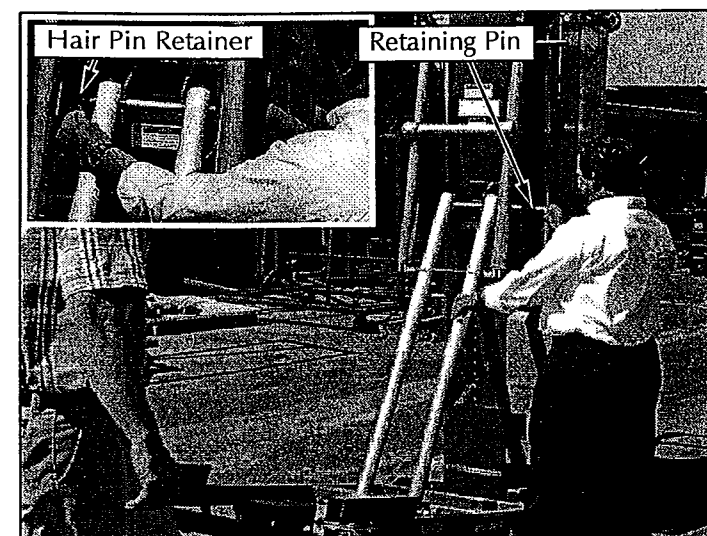

Figure 3-14: Pinning the Tilt Back Frame in Place
5. Lower the Tilt Back Frame until the top of the gas spring assembly reaches the upper attachment point and insert the retaining pin through the top of the gas spring assembly. Lock the retaining pin securely with the hair - pin retainer (fig. 3-14).